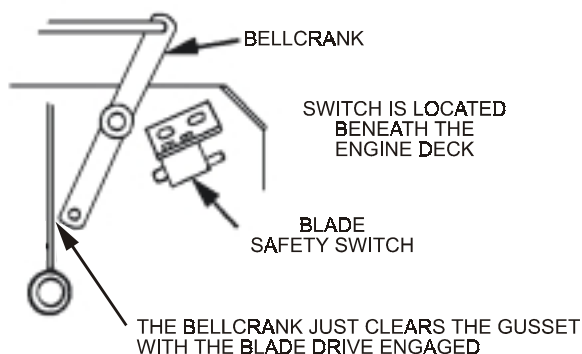
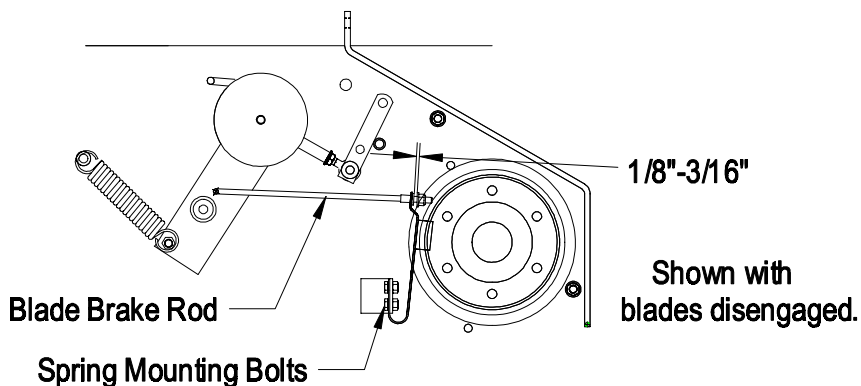

FIG. 9
**FIG. 10
- b) With blade drive engaged (lever pulled up, adjust the linkage length to where the lower end of the bellcrank just clears the axle support gusset (See Figure 9). Make sure the assist arm is against the rear assist arm stop on the deck (See Figure 10). Push the lever down to the disengaged position. The assist arm should contact the front assist arm stop on the deck. If it does not contact, readjust so that the bellcrank is closer to the gusset.
- c) Belt must be tight enough so it does not slip during heavy loads while cutting grass. Over-tensioning will reduce belt and spindle bearing life. To adjust belt tension, loosen the 5/16" whizlock nut on turnbuckle and rotate the turn buckle; rotate turnbuckle toward rear of mower to tighten, and toward front of mower to loosen belt tension (See Figure 10).
For 48" Decks: If there is no adjustment left in the turnbuckle and the belt is still loose, the rear idler pulley can be repositioned in the front hole (See Figure 10). The belt guide located next to the pulley must also be repositioned in the front hole when the pulley is moved. The turnbuckle will need to be readjusted.
- e) Proper belt tension will require about 10 lbs. side pull on belt, halfway between pulleys, to deflect belt 1/2". (See Figure 10, Point A).